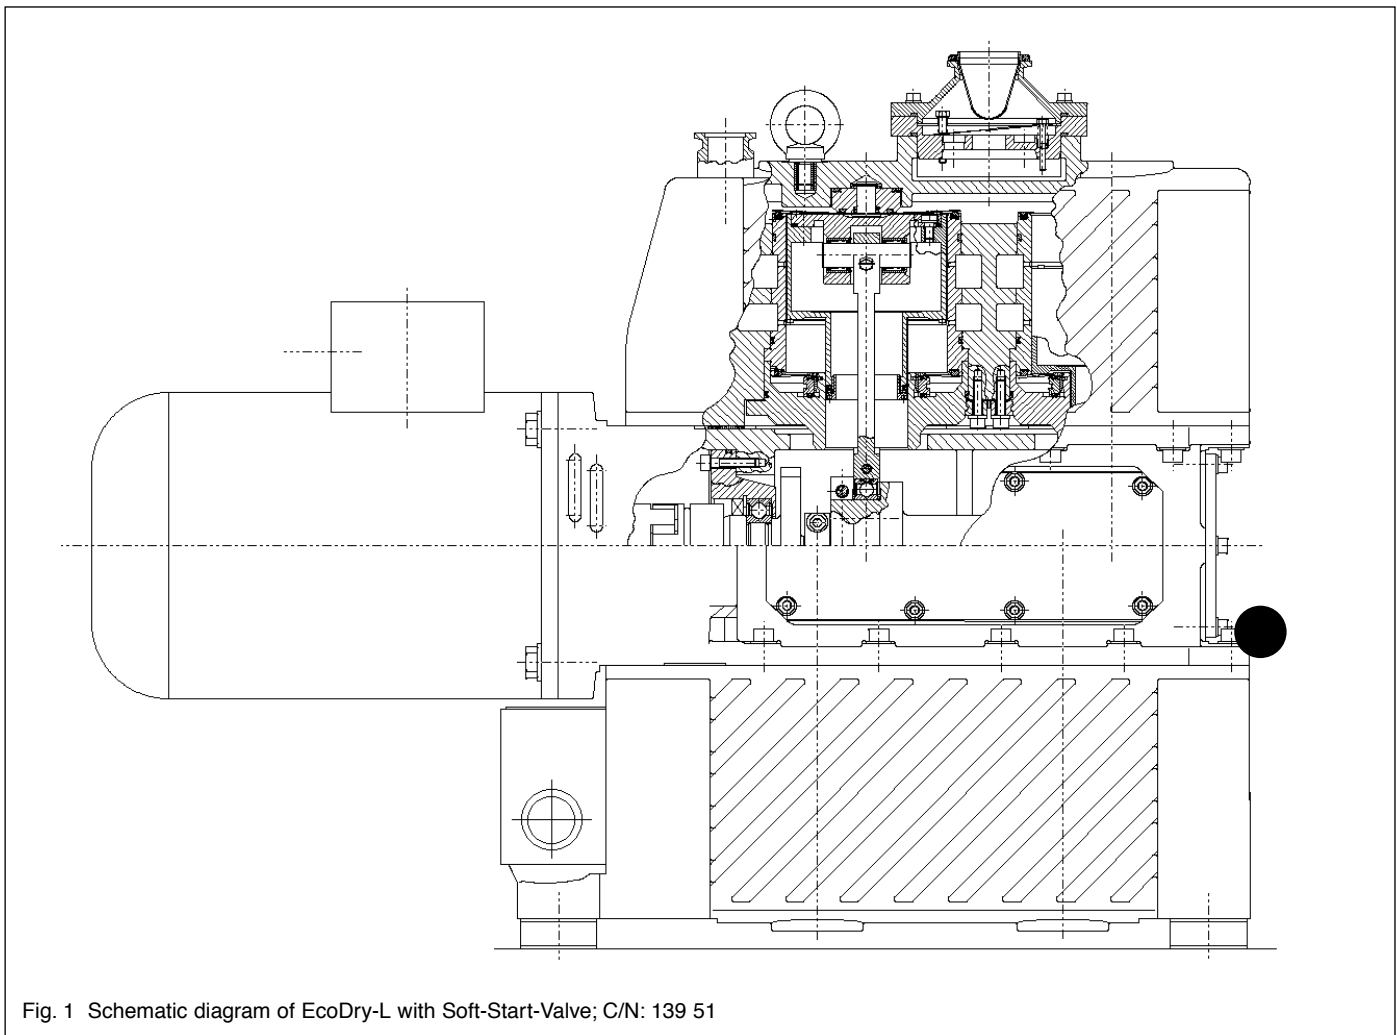

Fig. 1 Schematic diagram of EcoDry-L with Soft-Start-Valve; C/N: 139 51
** measured at ● see Fig. 1 page 6